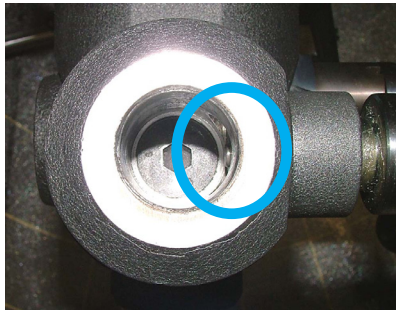

Figure 9-5. Top Retractable Handle Pin Not Visible
- Step 4. Look down the top of the Column Load Cell and verify the retractable handle pin is not visible. If the pin is visible, rotate the collar of the retractable handle counter-clockwise until the pin is not visible (Figure 9-5).